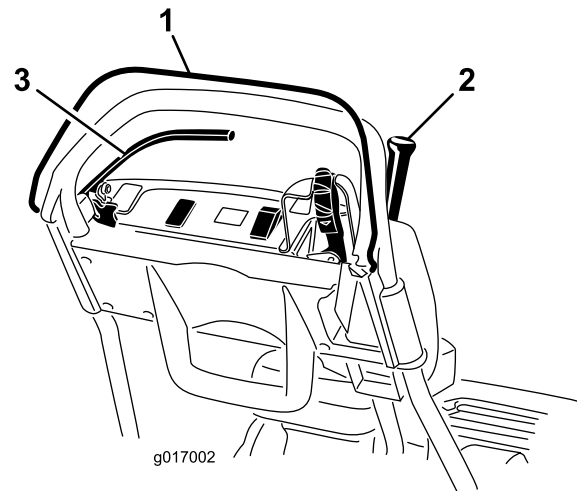

Figure 28
3. With the OPC released, attempt to engage the traction lever (Figure 28). The traction lever should not engage. If the traction lever engages, the interlock system needs service. Correct the problem before operating. Refer to Servicing the Traction Interlock Switch (page 30).
4. With the OPC depressed and the traction lever engaged, release the OPC (Figure 28). The traction lever should disengage. If the traction lever does not disengage, the interlock system needs service. Correct the problem before operating. Refer to Servicing the Traction Interlock Switch (page 30) or (page).
OPC (Figure 28). The traction lever should disengage. If the traction lever does not disengage, the interlock system needs service. Correct the problem before operating. Refer to Servicing the Traction Interlock Switch (page 30), (page), or Adjusting the Reel Control (page 34).
6. With the OPC depressed and the shift lever moved to the left to engage the traction and reel drive, move the shift lever to the right to disengage the reel drive (Figure 28). The reel drive should disengage. If the traction lever does not disengage, the interlock system needs service. Correct the problem before operating. Refer to Adjusting the Reel Control (page 34).
2. With the OPC depressed, the traction lever engaged and the engine controls in the starting position (Figure 28). Attempt to start the engine. Engine should not start. If engine starts, the interlock switch needs service. Correct the problem before operating. Refer to Servicing the Traction Interlock Switch (page 30).
2. With the traction lever disengaged, the service brake engaged and the engine controls in the starting position (Figure 28). Attempt to start engine. Engine should start. If engine does not start, the interlock switch needs service. Correct the problem before operating. Refer to Servicing the Brake Interlock Switch (page 31).
3. With the engine running, engage the service brake (not the parking brake), depress the OPC and engage the traction lever (Figure 28). Engine should labor to overcome the brake but should not kill. If the engine kills immediately, the interlock switch needs service. Correct the problem before operating. Refer to Servicing the Brake Interlock Switch (page 31).
4. With the engine running, engage the parking brake latch, depress the OPC and engage the traction lever (Figure 28). Engine should kill. If engine does not kill, the interlock switch needs service. Correct the problem before operating. Refer to Servicing the Brake Interlock Switch (page 31).